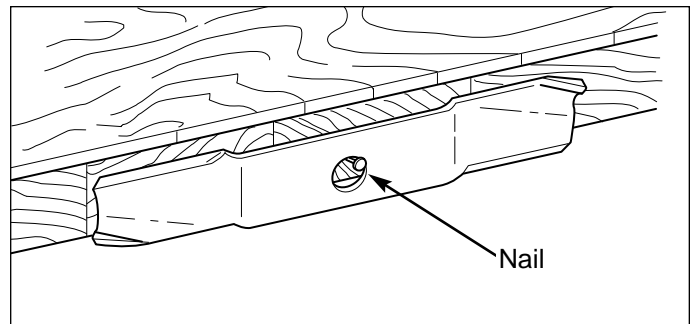

Figure 17. Balancing The Blade
4. Balance the blade as shown in Figure 17. Center the blade's hole on a nail lubricated with a drop of oil. A balanced blade will remain level.